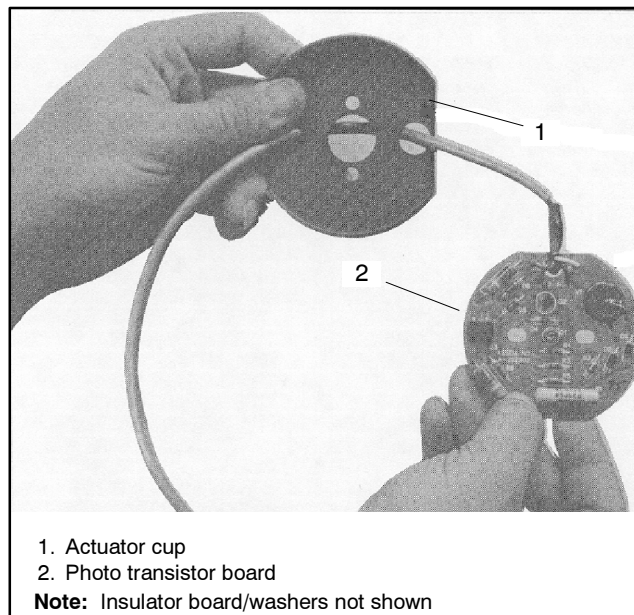

Figure 4 Photo Transistor Board Installation
11. Place photo transistor board lead through actuator cup as shown in Figure 4. Route the photo transistor board lead through hole in rotor shaft and then through exciter laminations to exit near the SCR assembly.